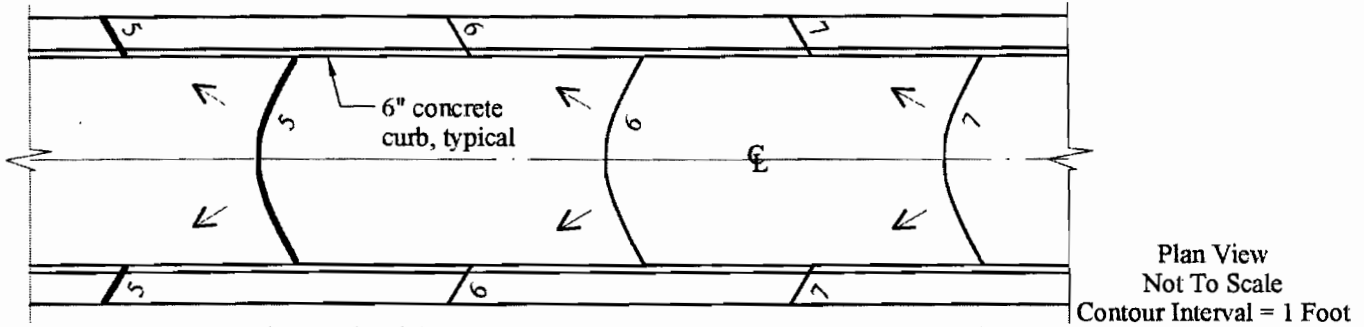

Figure 3-33. Asphalt Road With Six-Inch Concrete Curbs and Sidewalks Signature
Figure 3-33 shows an asphalt concrete (AC) road with six-inch concrete curbs and adjacent sidewalks. Note again the curvilinear shape of contour lines on road. In this example, all run-off generated on the road flows to the gutters at base of curb face, as does all run-off generated on the sidewalks.